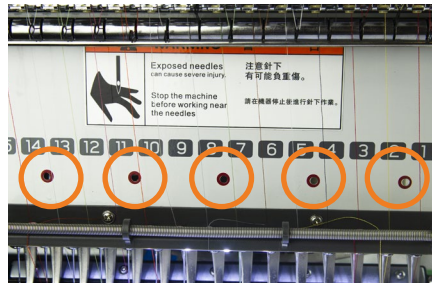

Figure 111
- Apply one to two drops of sewing machine oil through the openings on the metal cover. Note: The foam pads located behind the metal cover on the lower needle bars should soak up the oil. **See Figure 111.**